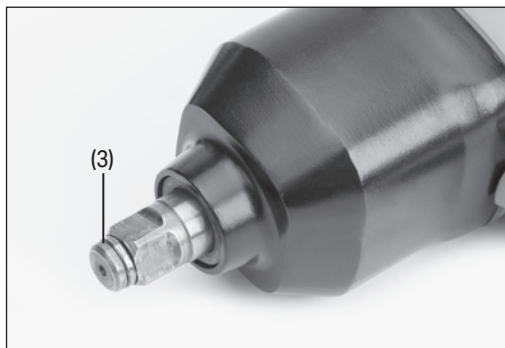

Fig. 5
7.3 Anvil (Fig.5)
- Ensure the anvil ring (3) is correctly maintained and if damaged or missing is replaced immediately before work commences.
- Ensure the socket correctly locates on the anvil and firmly engaging on the anvil ring (3).